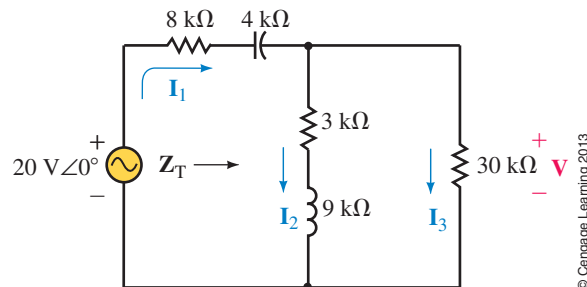

FIGURE 18-114
46. Refer to the circuit of Figure 18-114.